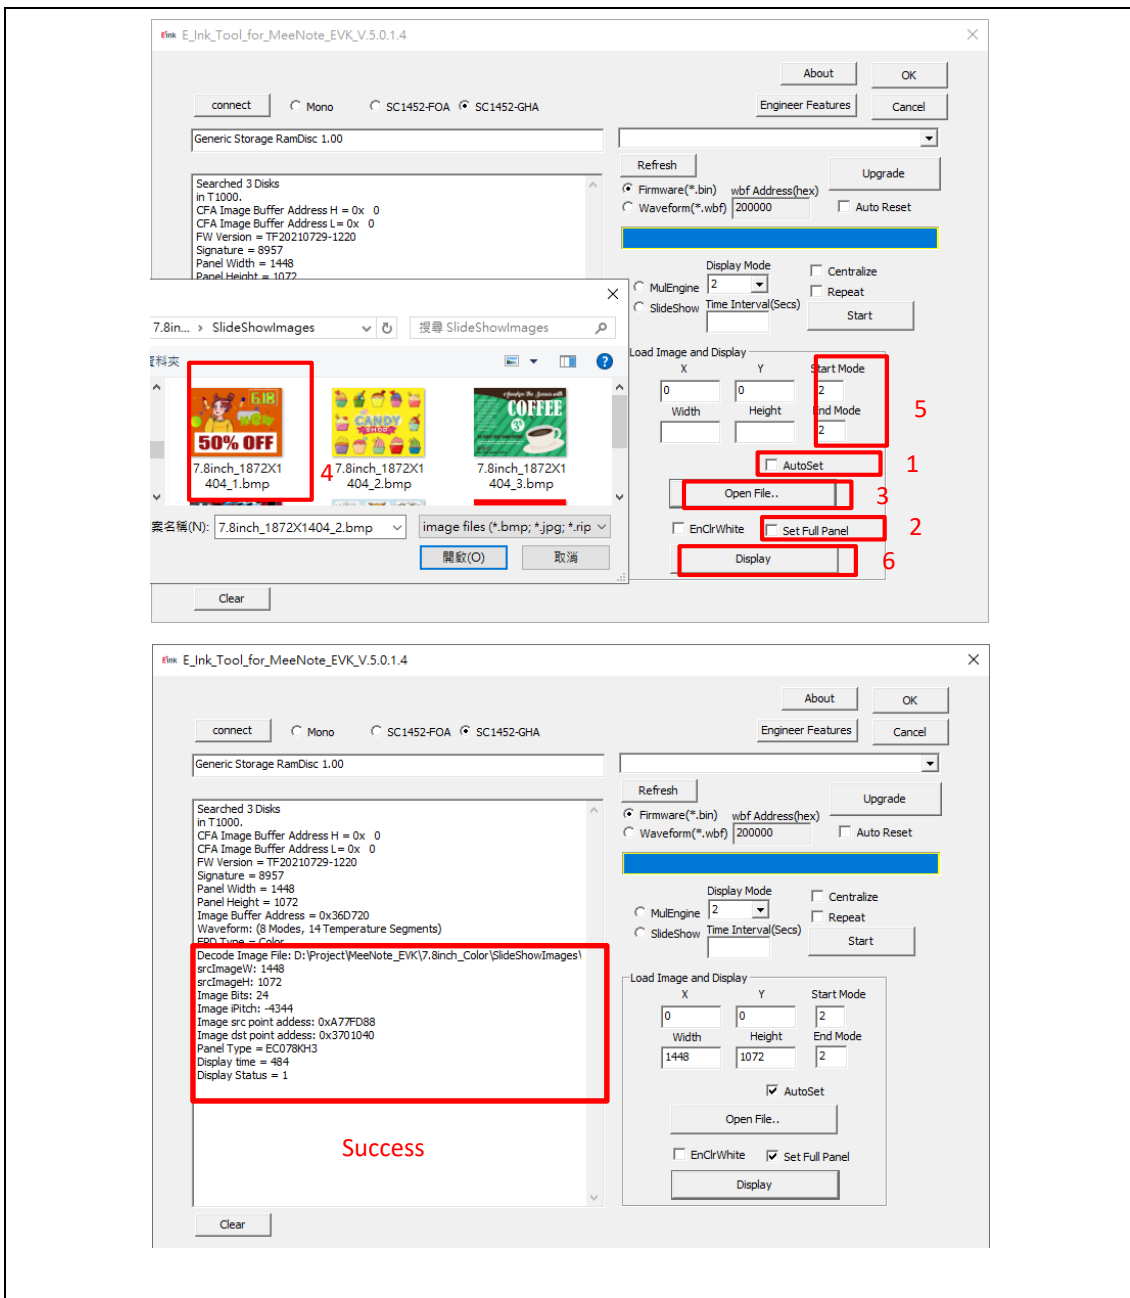

Figure 3.2 Update single picture to Kaleido plus color ePaper display
- Execute E_Ink_Tool_for_MeeNote_EVK_V5.0.1.4.exe and select SC1452-FOA or SC1452-GHA (refer to Figure 3.2)